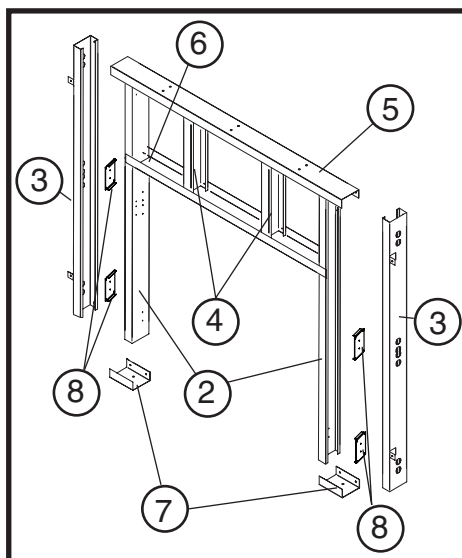
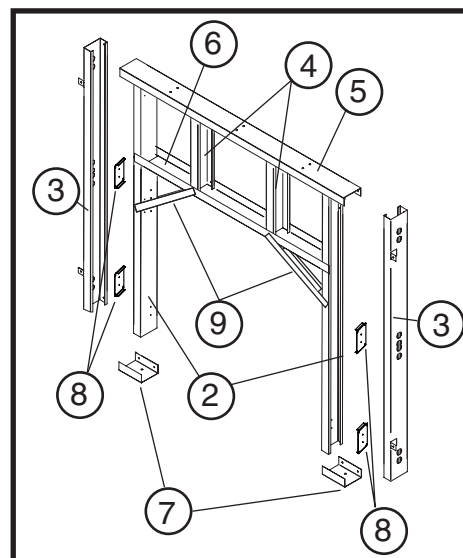

Figure 17: TC 36D regular frame.
Figure 18: TC 36D arched frame.
Using the screws provided, attach the upper header stud (5) and the stud plate (6) to the vertical center studs (4) (Figure 17 or Figure 18).
Attach the inner (2) and outer side studs (3) to the top of the upper header stud (5). (Figure 17 or Figure 18).
Fasten the inner and outer vertical side studs (2 & 3) at the bottom using the base plates (7) (Figure 17 or Figure 18).
If including the archway, attach the diagonal studs (9) (Figure 18) to the lower horizontal studs and the inner vertical studs.